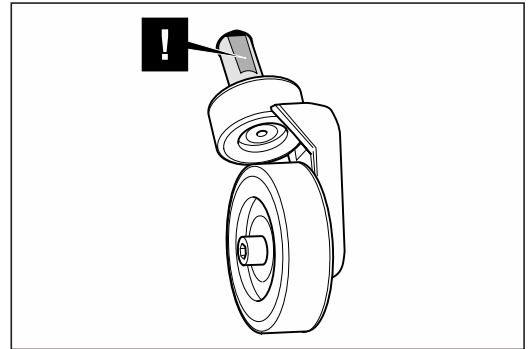

Fig. 62 When mounting the complete rear wheel, align the tensioning surface of the tail axle towards the screw in the machine housing.
- 11 Mount the complete rear wheel in reverse sequence and fasten it again in the machine housing, aligning the tensioning surface of the tail axle (fig. 62) towards the screw in the machine housing.